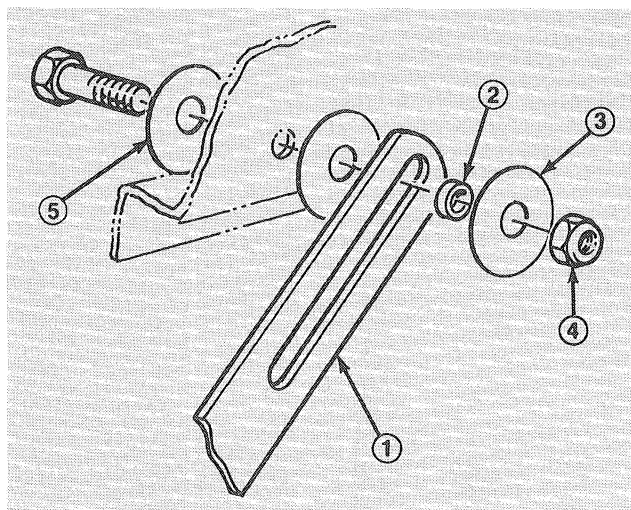

Figure 7
4. Mount hood stop, spacer, and (2) washers to each side of hood with a 5/16-18 x 7/8" lg. cap screw and locknut (Fig. 7).